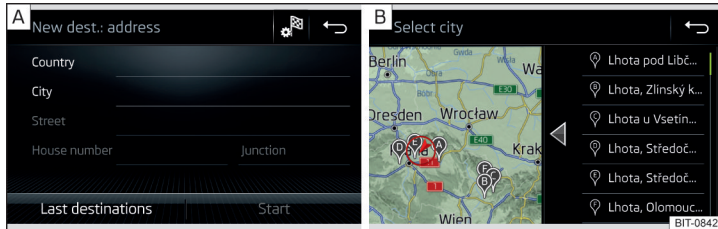

Fig. 186 Enter destination using the address: Main menu/list of places found
- › Enter the destination address and then confirm » Fig. 186 - **A**.
Depending on the number of places visited, a map with a list of visited places can be displayed automatically » Fig. 186 - **B**.